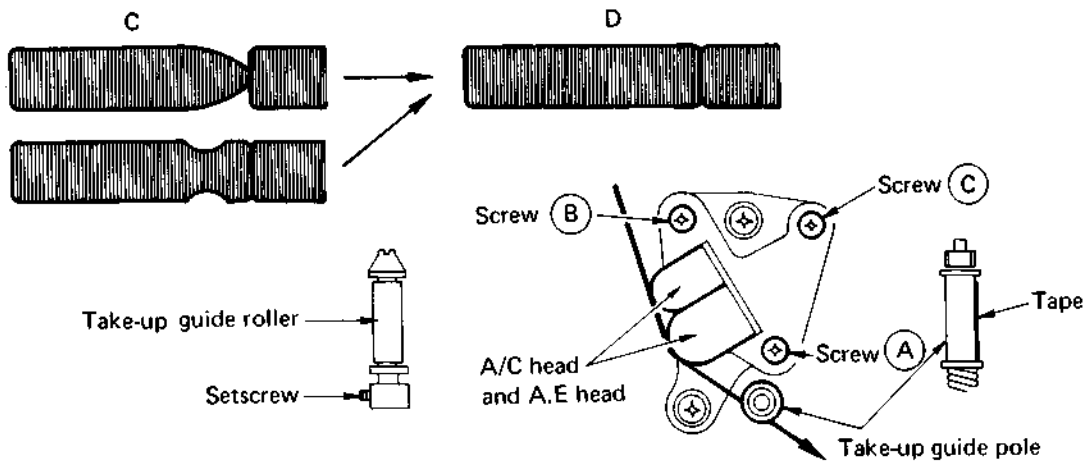

Fig. 5-39 Drum output adjustment
1. In the same manner as for the drum input, turn the take-up guide roller to adjust the falling portion (drum output portion) of the FM waveform. Incorrect examples are shown by C in Fig. 5-39, while D indicates the correct adjustment.
2. If the tape separates from the guide or wrinkling occurs at the take-up guide pole, adjust by turning screw © of the audio/control head as shown in Fig. 5-39.
2. If the tape separates from the take-up guide pole or wrinkling occurs, screw © (Fig. 5-39) has been turned excessively with respect to screws (A) and (B), causing the audio/control head to incline forward or rearward. Use care to adjust screws (A), (B) and © evenly and observe that small wrinkles are not produced at the take up guide pole.